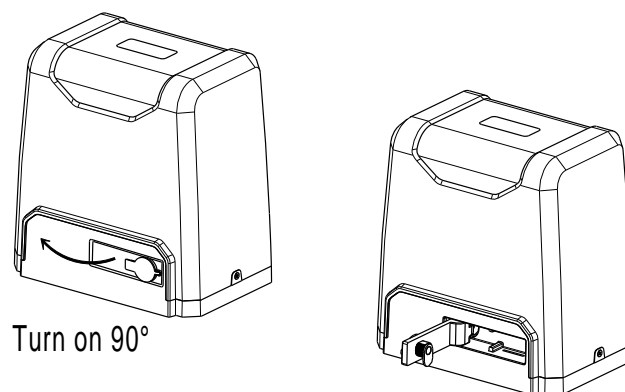

Figure 5
- Please unlock the main engine before installation, the unlock method is: remove the rubber key cover, insert the key, and open the manual release bar till it rotates by 90° as shown in Figure 5. Then turn the output gear and the gear can be rotated easily;